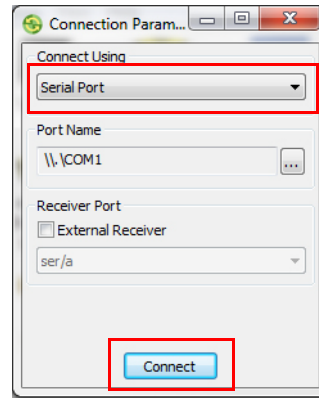

Figure 6: Connection Parameters Window
5. In the **Connection Parameters** window (Figure 6), select **Serial Port** and the port name, and then click **Connect**.